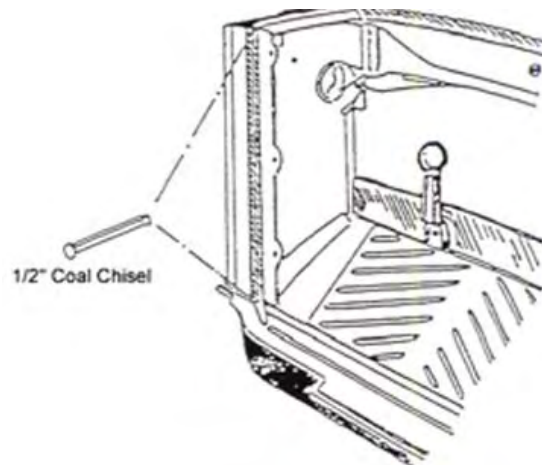

Fig.D-1: Separating Air/Wear Plate from Stove End.
- STEP 15: Remove the right air/wear plate, 2 each, ¼-20 x 1” hex head cap screws. Chip away the cement at the joints and mating surfaces with a cold chisel and ball peen hammer. Drive a ½” cold chisel between the rear flange (extreme top and bottom) of the wear plate and the stove end and gently pry loose (see fig. D-1).
- STEP 16: Remove the left air wear plate, 2 each, ¼-20x1” hex head cap screws. Chip away the cement at the joints and mating surfaces with a cold chisel and ball peen hammer. Drive the ½” cold chisel between the rear flange (extreme top and bottom) of the wear plate and the stove end and gently pry loose (see fig. D-1).